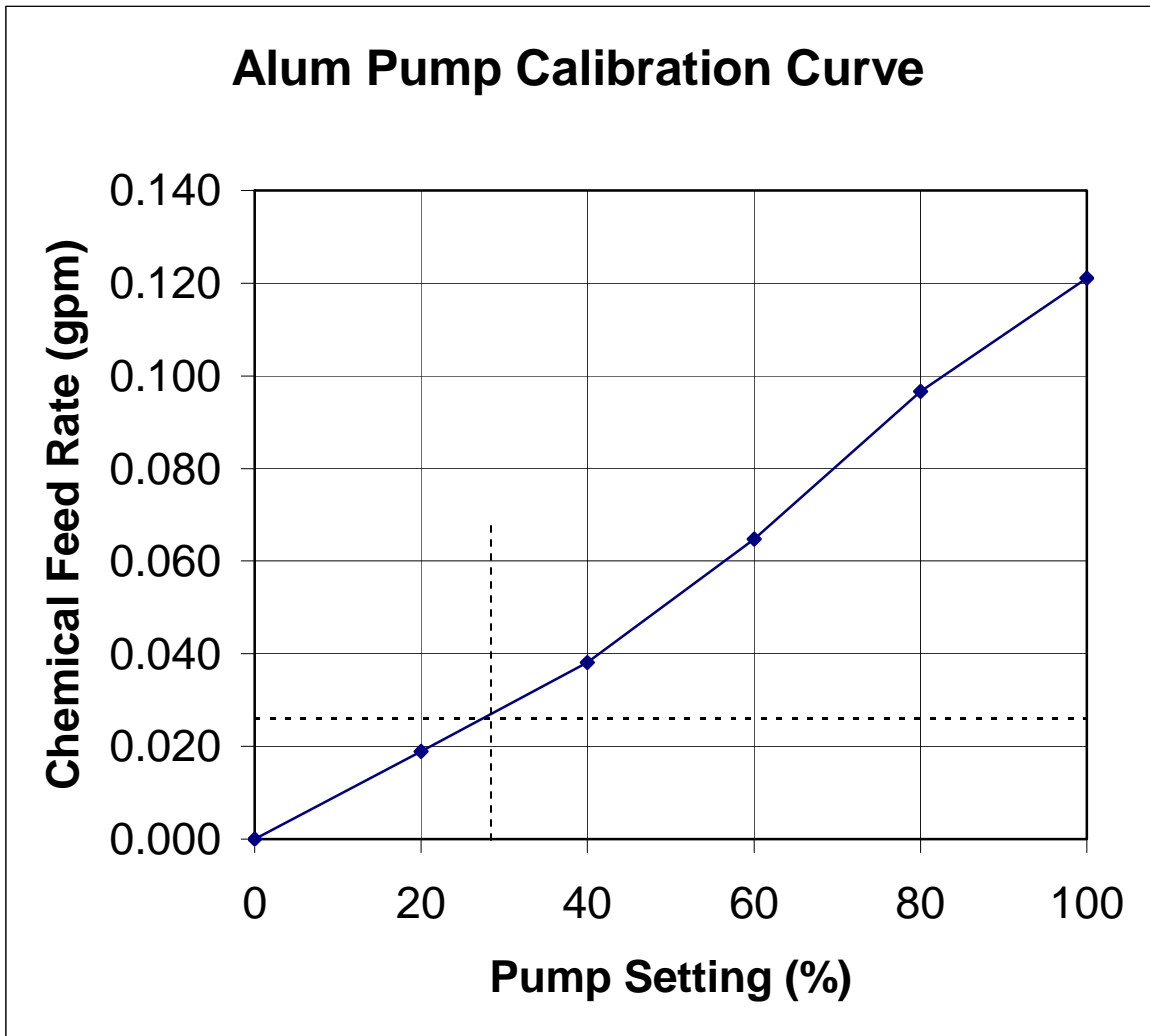

Figure 3.7 Alum Pump Calibration Curve
From where the vertical dashed line in the graph in Figure 3.7 crosses the x-axis, the Alum Feed Pump Setting = 27.5 %
2. Use the graph in Figure 3.7 to answer this question. From the graph, determine the pump setting if you need a feed rate of 0.090 gpm.